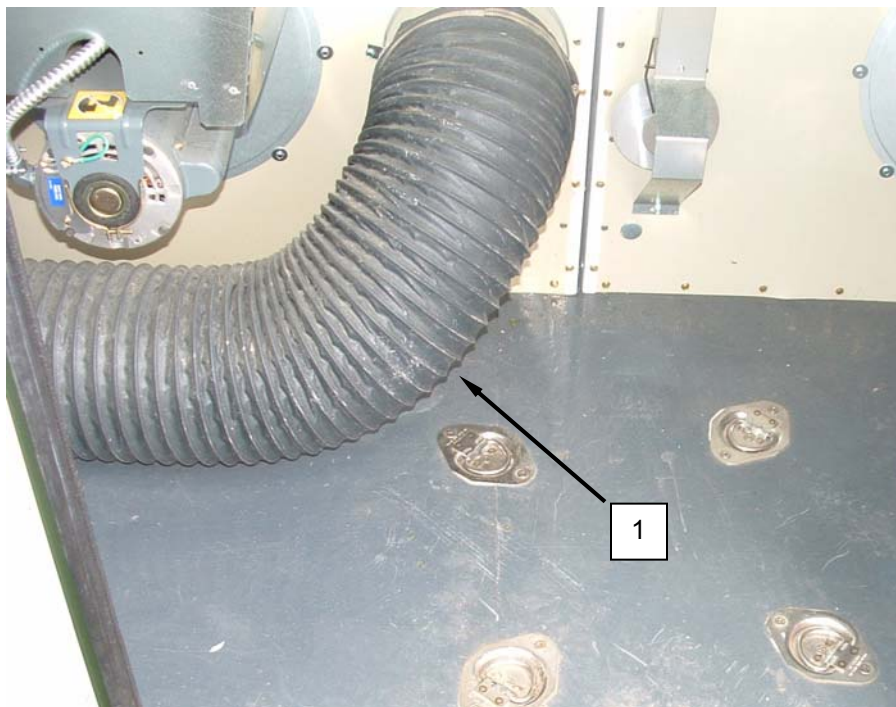

Figure 3. Replace the Dryer Exhaust Ducts.
2. Remove clamps retaining ducts (**Figure 3, Item 1**).
3. Install replacement ducts (**Figure 3, Item 1**), and retain with clamps.